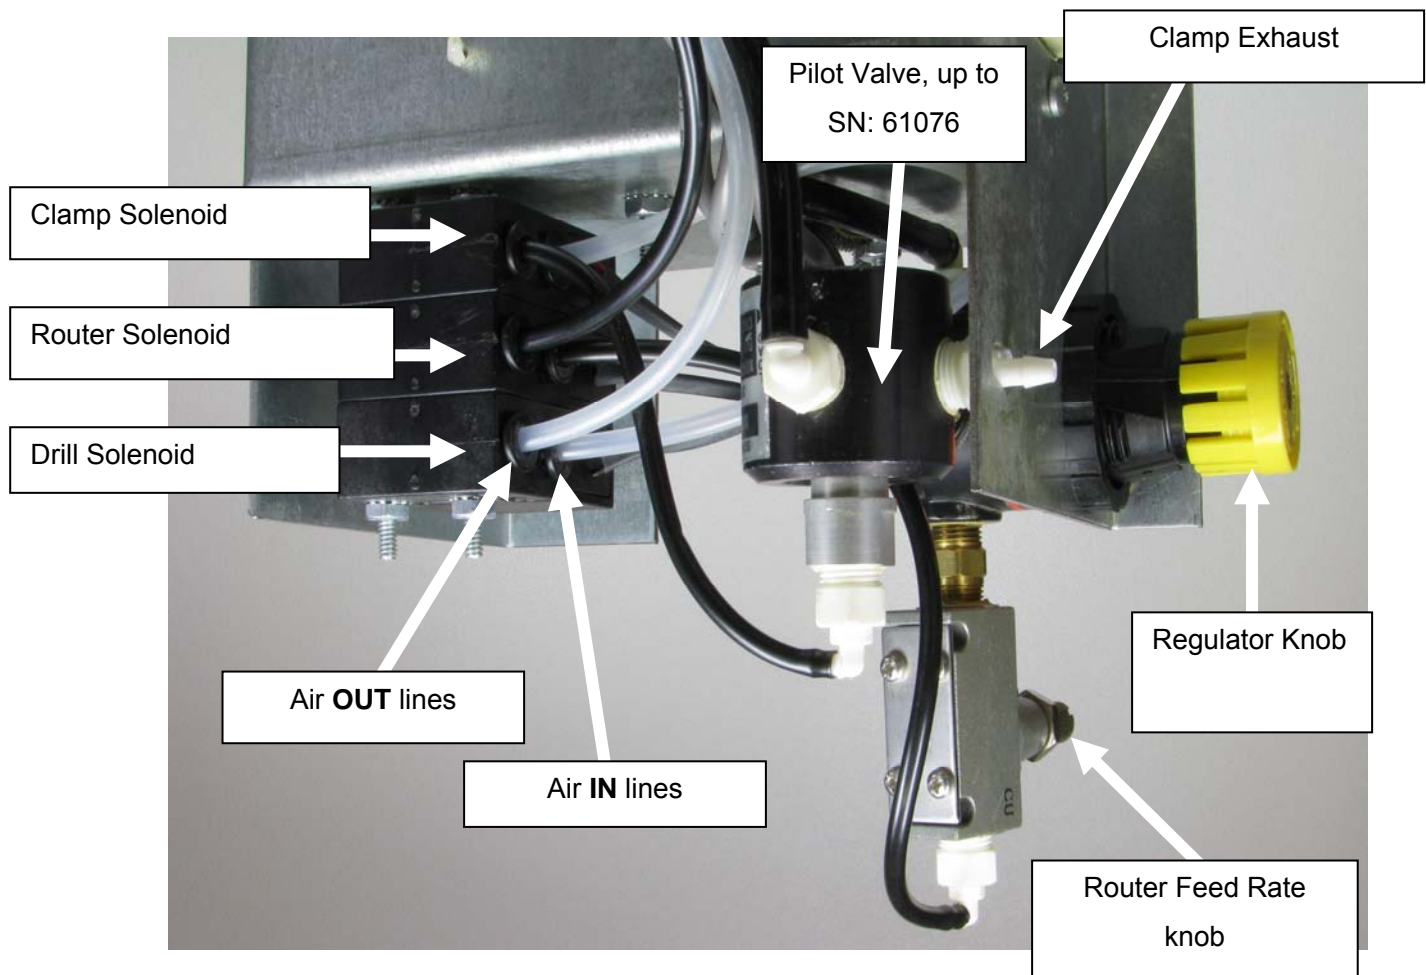

Fig 3
2. Swap the "Air Out" lines between the Clamp Solenoid and the Router Solenoid. **See Fig 3.**